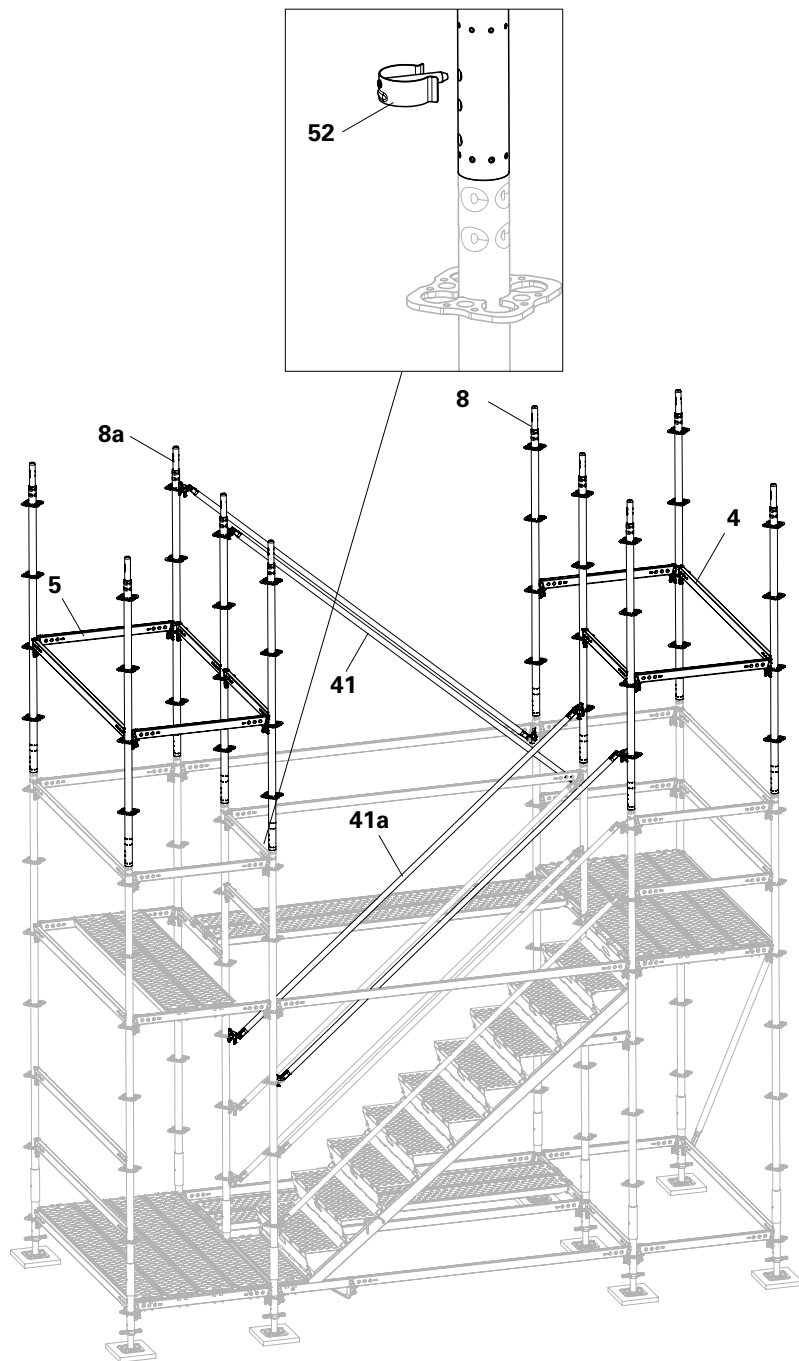

Fig. A3.01
4. Hook in the Horizontal Ledgers UH-2 200 and UH-2 100E (**4 + 5**) and knock them in tight. (Fig. A3.01)